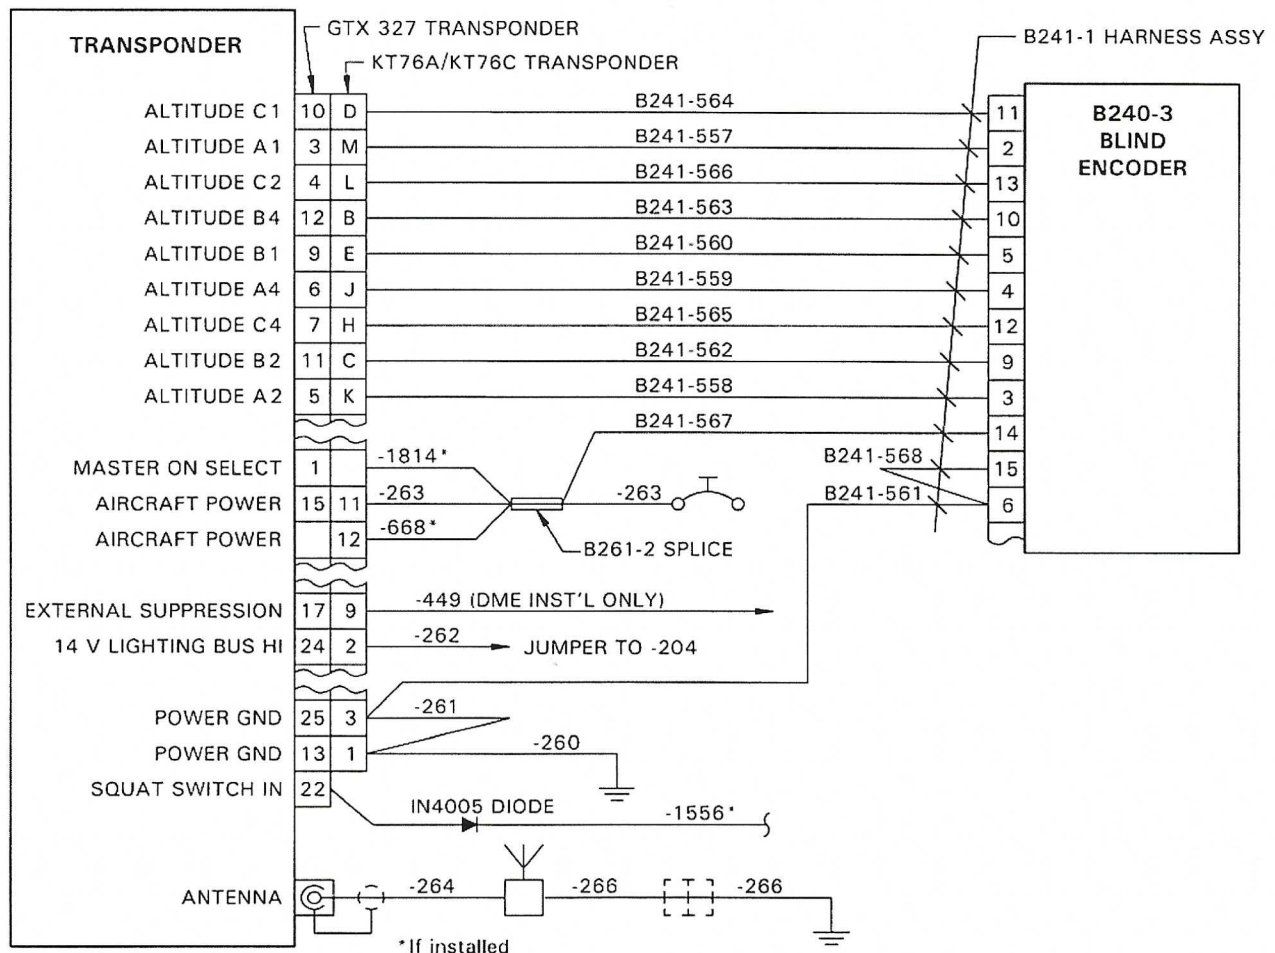

FIGURE 3 B240-3 - to - GTX 327/KT76A/KT76C SCHEMATIC
8. Reference Figure 3. Cut and strip B241 harness wires as required and install appropriate terminals for Garmin or King transponder. Install terminal into transponder connector. Splice -567 wire into existing -263 power wire using B261-2 splice. If a -668 or -1814 wire is installed, replace existing B261-2 splice when connecting -567 wire. Ty-rap wiring as required.